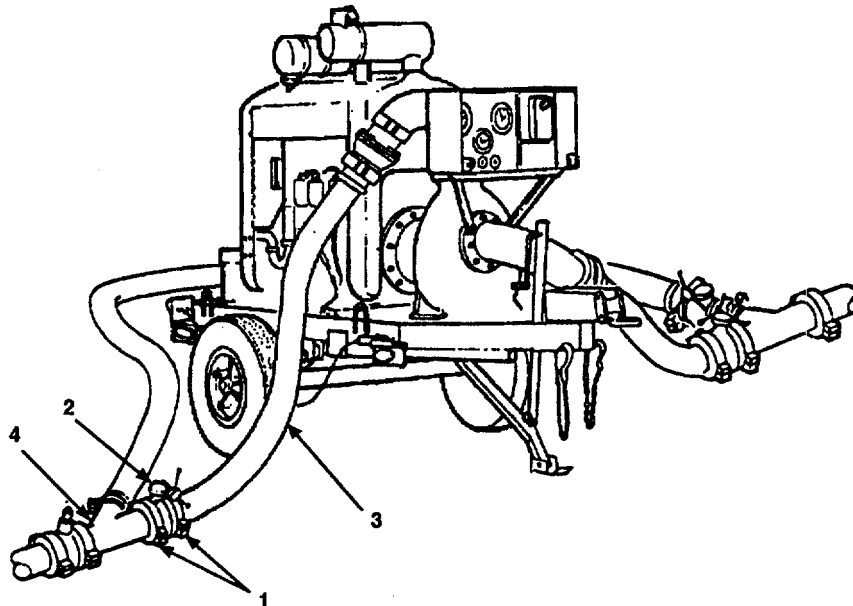
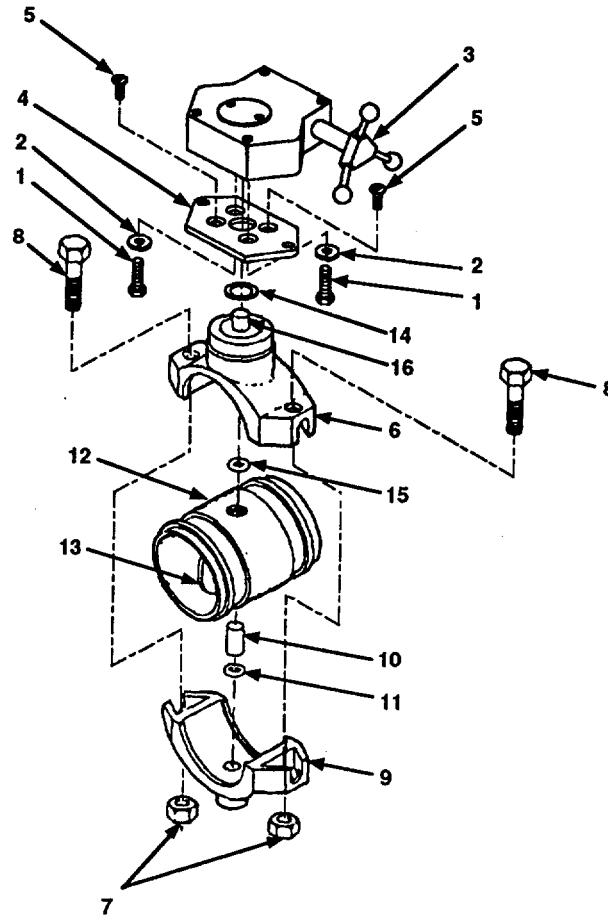

Figure 4-3. 6 Inch Butterfly Valve Assembly Removal.
Figure 4-4. 6 Inch Butterfly Valve Assembly Disassembly.
- a. Remove two grooved-end pipe quick-disconnect coupling clamps (Figure 4-3, 1) securing 6 inch butterfly valve assembly (2) to 6 inch X 20 foot hose assembly (3) and lateral grooved pipe fitting (4).
- b. Remove 6 inch butterfly valve assembly (2).
- a. Remove two bolts (Figure 4-4, 1), lock washers (2) and remove handle assembly (3) from mounting plate (4). Discard lock washers (2).
- b. Install new preformed packing (15) and washer (14) on upper stem (16).
- c. Install disc (13) in body (12). Ensure holes in top and bottom of disc (13) are aligned with holes in top and bottom of body (12).
- d. Install body (12) in upper housing (6). Ensure upper stem (16) is inserted through body (12) and installed securely in upper mounting hole of disc (13).
- e. Install new preformed packing (11) and lower stem (10) in lower housing (9).
- f. Install lower housing (9) on body (12) and upper housing (6) assembly. Ensure lower stem (10) is inserted through body (12) and installed securely in mounting lower hole of disc (13).
- g. Carefully align upper housing (6) and lower housing (9) and install two bolts (8) and nuts (7). Tighten nuts (7).
- h. Place mounting plate (4) on upper housing (6). Install two screws (5). Tighten screws (5).
- i. Install handle assembly (3) on mounting plate (4).
- j. Install two new lock washers (2) and bolts (1). Tighten bolts (1).
- a. Install 6 inch butterfly valve assembly (Figure 4-3, 2) next to 6 inch X 20 foot hose assembly (3) and lateral grooved pipe fitting (4).
- b. Install two grooved-end pipe quick-disconnect coupling clamps (1) securing 6 inch butterfly valve assembly (2) to 6 inch X 20 foot hose assembly (3) and lateral grooved pipe fitting (4).